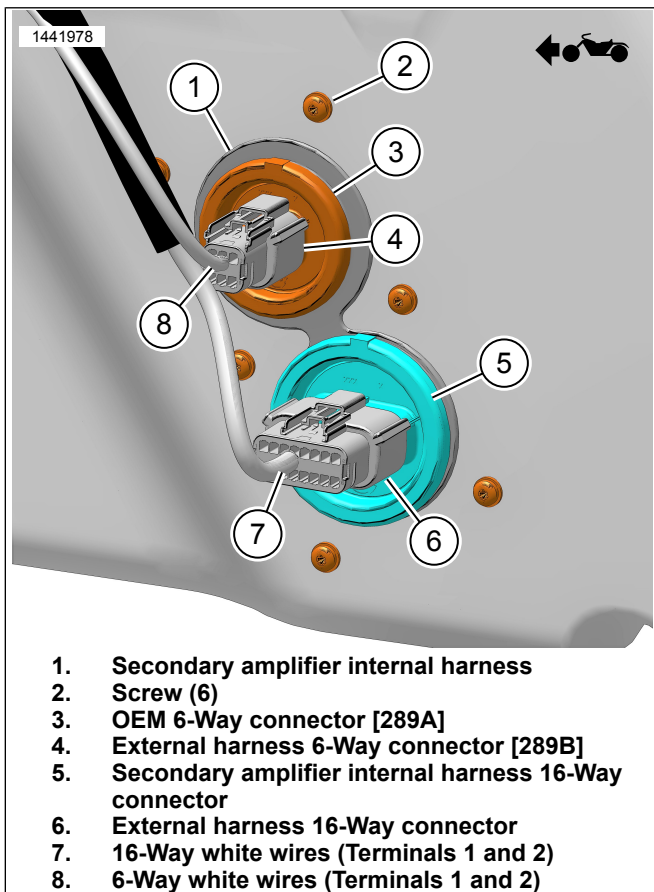

Figure 8. External Harness White Wires (Outside of Saddlebag)
1. See Figure 8. Use special tool to remove terminals from connectors.
- a. Install white/pink wire (8) from 6-way OEM connector [289B] (4) into terminal 1 of secondary amplifier harness 16-way connector [289B_1] (7).
- b. Install white/brown wire (8) from 6-way OEM connector [289B] (4) into terminal 2 of secondary amplifier harness 16-way connector [289B_1] (7).
3. See Figure 8. Use electrical tape to wrap ends of white wires (7) that were in the 16-way connector (6) or remove the wires entirely from the secondary amplifier harness including the unused connector [350B].
4. Secure unused white wires (7) as needed.
If saddlebag speakers are not present, the external harness 6-way connector (4) will not be present. See Figure 8.